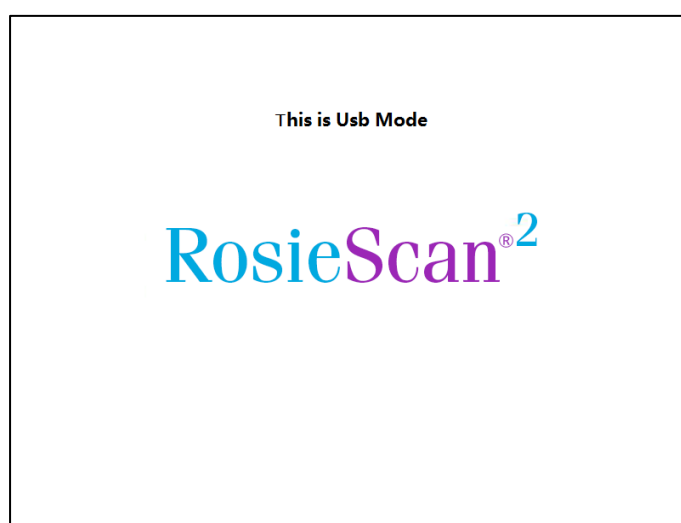

Figure 7-46 USB Mode Interface
a. In the shutdown state, connect the USB interface of the device and the USB interface of the PC through the USB cable, and press and hold the UP button and the POWER button at the same time to enter into the USB mode interface after confirming that the physical connection is correct. USB mode interface is as shown in Figure 7-46.